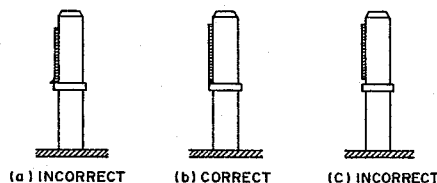

Fig. 4-3
- 4) Slightly turn the ④ screw until the tape edge barely touches the lower part of the TAKE-UP TAPE GUIDE without any curl or wrinkle as shown in Fig. 4-3.
- 5) Adjust the head azimuth again. (Turning the hexagon screw, or ④ screw, will cause head azimuth mis-alignment. Refer to 4-3-1. Azimuth adjustment.)